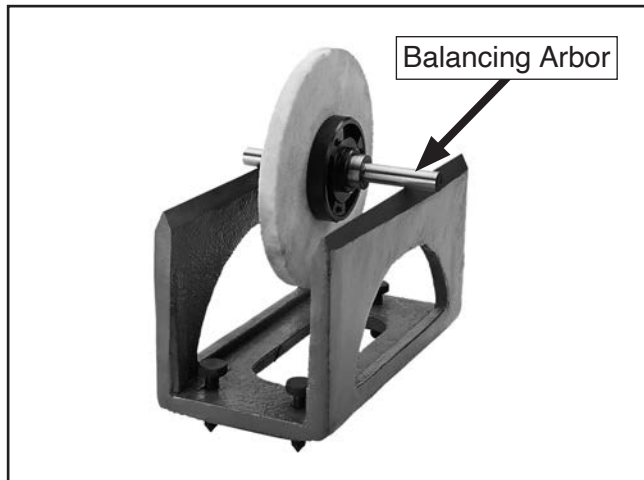

Figure 42. Wheel assembly on balancing base.
7. Place assembly on balancing base and wait until wheel settles (see **Figure 42**). Make sure balancing arbor is perpendicular to balancing base.